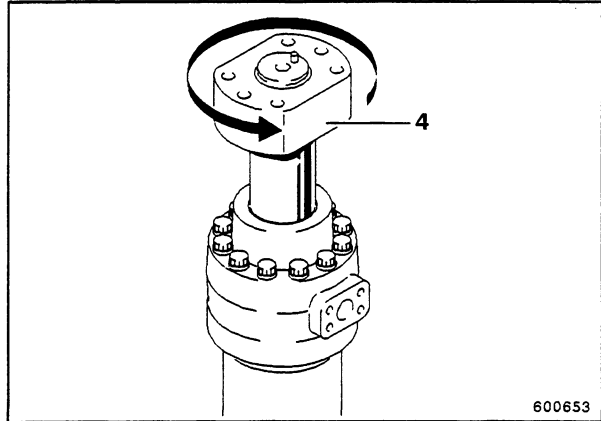

Fig. 9
- Check dowel pin (2) for damage - change if necessary.
- Unscrew flange (4, Fig. 9) from rod.